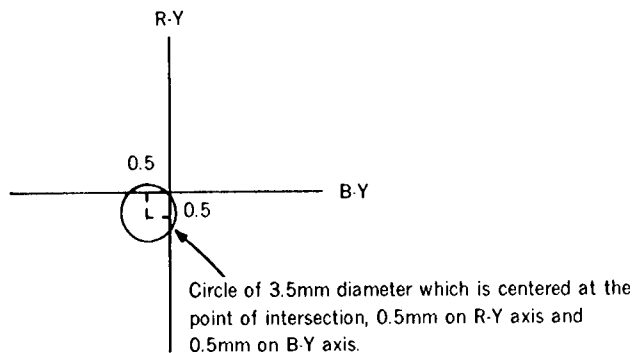

Fig. 4-31.
Specified value	See Fig. 4-31.
- 2) Check that the center of the white bright point is within the circle of 3.5mm diameter given in Fig. 4-31.